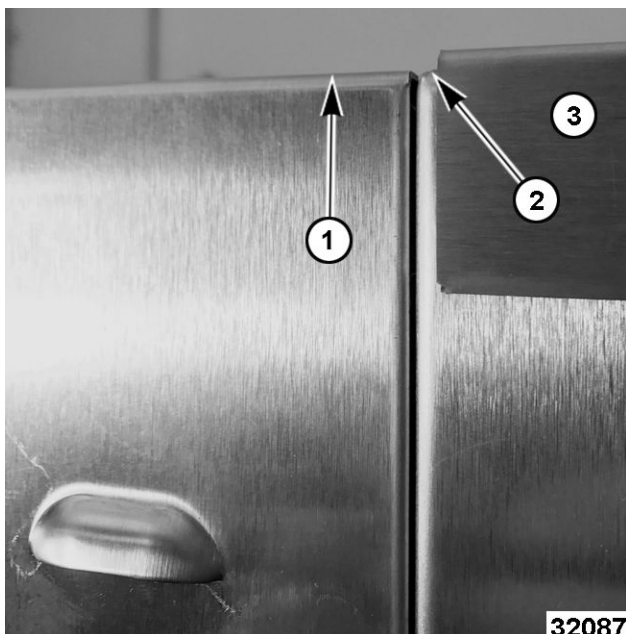

Fig. 105
1. Visually check to see if control panel (1, Fig. 105) is flush with the frame (2, Fig. 105) of the oven along the top (Fig. 104) and side. **Not** with the top trim (3, Fig. 105).